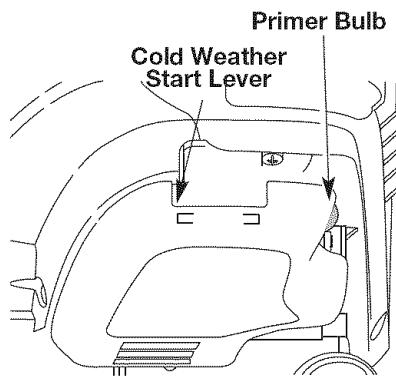

Fig. 7
**IF COLD...** For cold weather conditions (below 40°F), flip the Cold Weather Start Lever (Fig. 7) down to the start/closed position and continue to step 4. DO NOT flip this lever down if the temperature is above 40°F.
3. Fully press and release the primer bulb 10 times, slowly. Some amount of **fuel should be visible in the primer bulb** and fuel lines (Fig. 7). If you can't see fuel in the bulb, press and release the bulb as many times as it takes before you can see fuel in it.